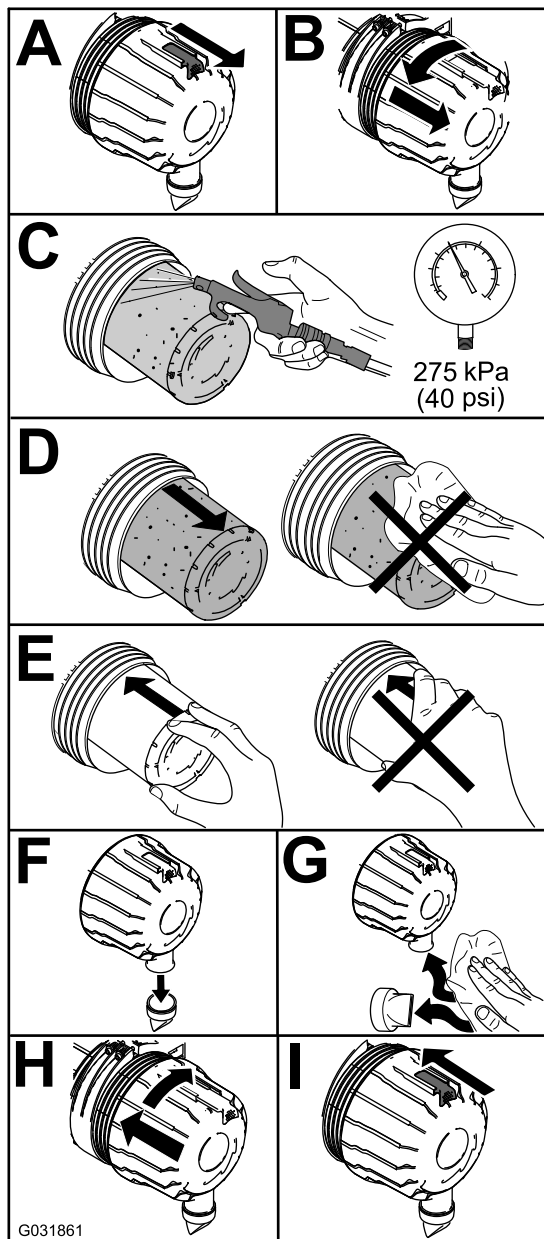

Figure 56
1. Replace the air cleaner (Figure 56).